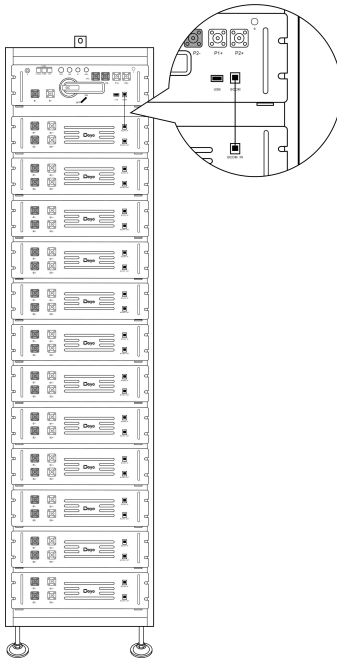
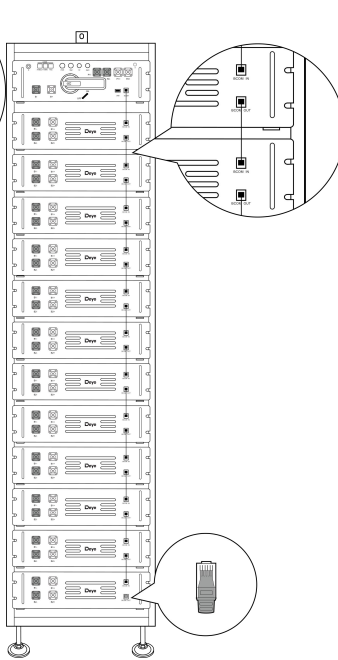

Figure 1-1
Figure 1-2
1. Communication cables: See the figure 1-1 and figure 1-2.